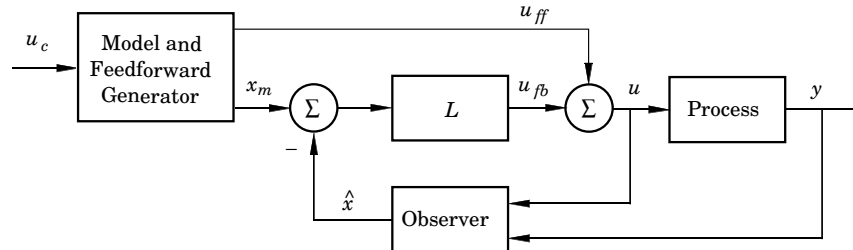

Figure 1 Block Diagram
- d. The block diagram is given by Figure 1 with the internal structure of the